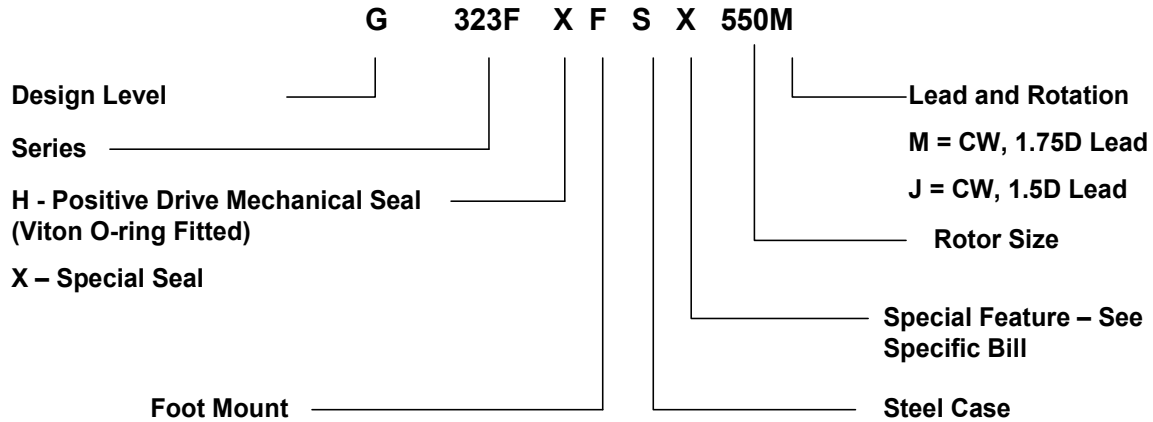

Figure 1 – Definition of Model Designators
This instruction manual covers Imo Pump H323FXFSX series pumps with fabricated cases. Because of the large number of operating conditions, it is necessary to have a variety of construction arrangements and material combinations to meet application requirements. Each pump is identified with a serial number and model designator number on the pump nameplate. Definitions of model designators are given in Figure 1.
11. Reinstall mechanical seal using bullet numbers in mechanical seal figure 1 below: